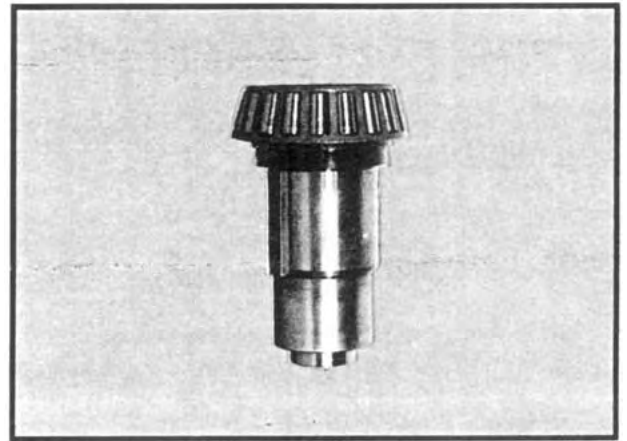

Fig 38
2. Heat and install the bearing cone assembly on the end of the shaft closest the the shoulder. See Figure 38.